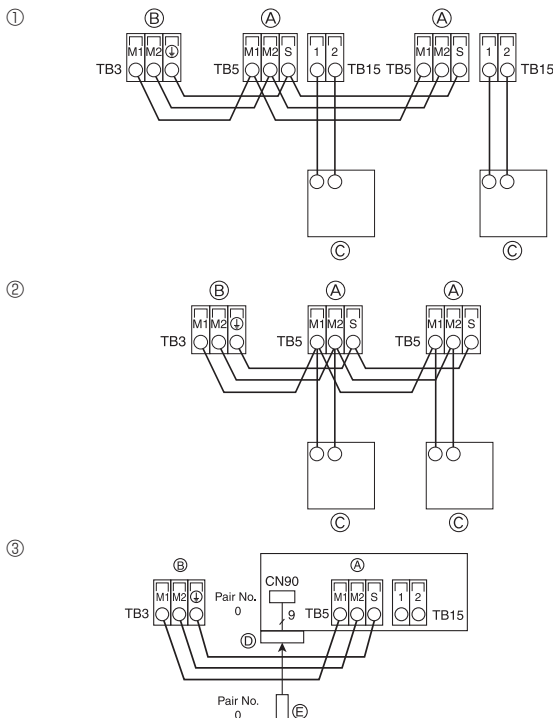

Fig. 5-8
5.4. Connecting remote controller, indoor and outdoor transmission cables (Fig. 5-8)
① MA Remote controller
② M-NET Remote controller
③ Wireless remote controller (When installing wireless signal receiver)